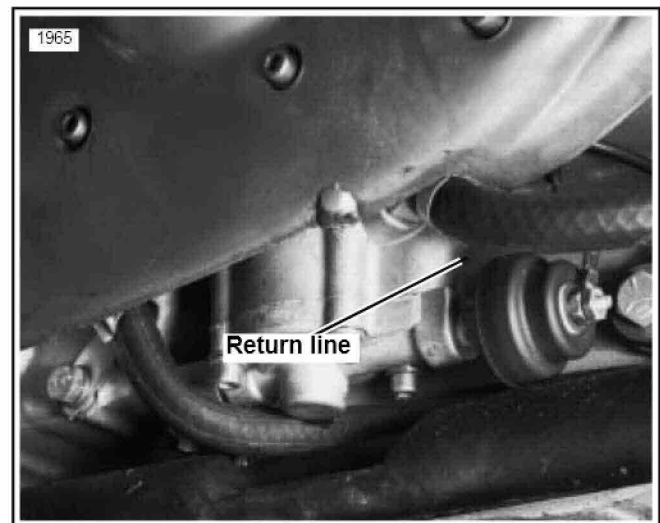

Figure 1. Oil Pump Hose Identification - 1982 to 1985
1. See Service Parts illustration. Cut two sections of hose (3), one approximately 9 in. long and one approximately 14 in. long.
2. See Figures 1 and 2. Disconnect the oil return line at the oil pump and oil filter inlet. Use a pan to catch any oil that may spill.
3. See Figures 1 and 3. Connect 14 in. hose to oil pump return fitting. Route hose forward and through hole in right front engine mount and up to oil cooler inlet fitting. Secure connections with clamps from kit.
2. See Figures 1 and 4. Disconnect the oil return line at the oil pump and oil filter inlet. Use a pan to catch any oil that may spill.
4. See Figures 1 and 3. Connect 14 in. hose to oil pump return fitting. Route hose forward and through hole in right front engine mount and up to oil cooler inlet fitting. Secure connections with small clamps from kit.